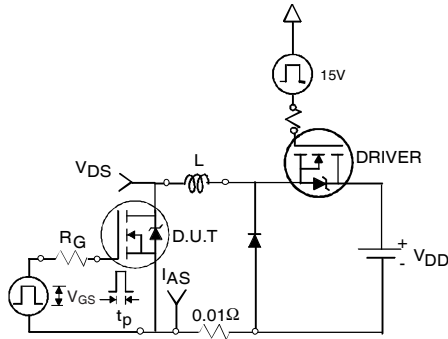

Fig 12a. Unclamped Inductive Test Circuit
- ③ Pulse width $\leq 1.0\text{ms}$; duty cycle $\leq 2\%$.
- ④ $C_{oss \text{ eff.}}$ is a fixed capacitance that gives the same charging time as C_{oss} while V_{DS} is rising from 0 to 80% V_{DSS} .
- ⑤ Limited by T_{Jmax} , see Fig.12a, 12b, 15, 16 for typical repetitive avalanche performance.
- ⑥ This value determined from sample failure population. 100% tested to this value in production.
- ⑦ When mounted on 1 inch square copper board.
- ⑧ When mounted on FR-4 board using minimum recommended footprint.
3. Equation below based on circuit and waveforms shown in Figures 12a, 12b.